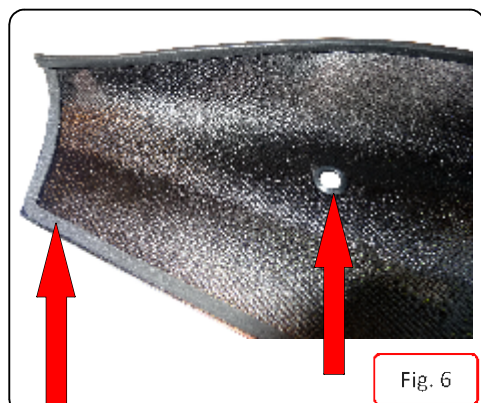

Fig. 6
- Canopy edge protection, Adhesive foam tape, Canopy grommets. (**Fig.6**)(**Fig.7**).